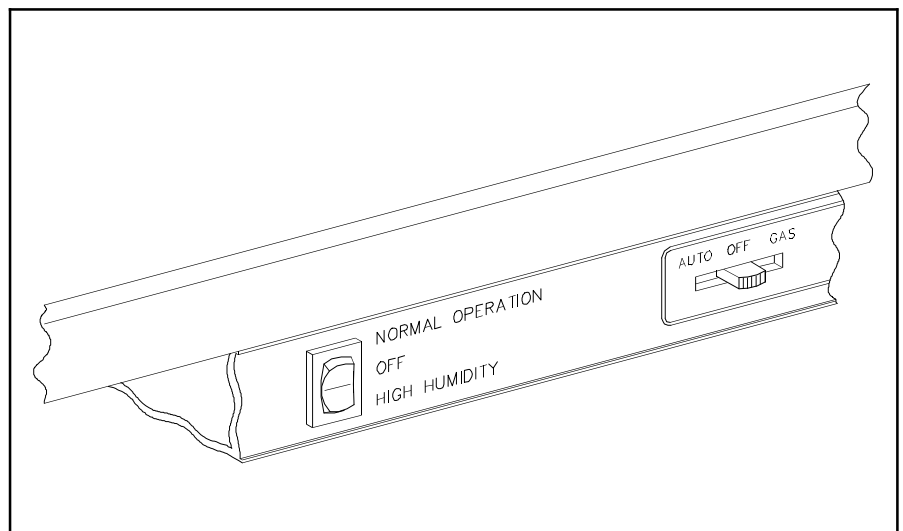

Figure 11.20 Humidity/Storage Switch
9. Check that the Humidity/Storage switch (Figure 11.20) (2 door models only) is set to NORMAL or HIGH HUMIDITY.